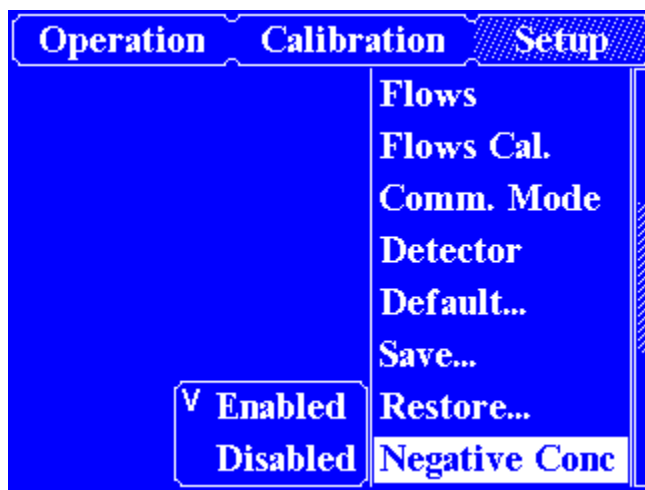

Figure 5-17. Negative Concentration Setup Screen
2. Use ← key to high-light an item and press Enter to select it. See figure 5-17.